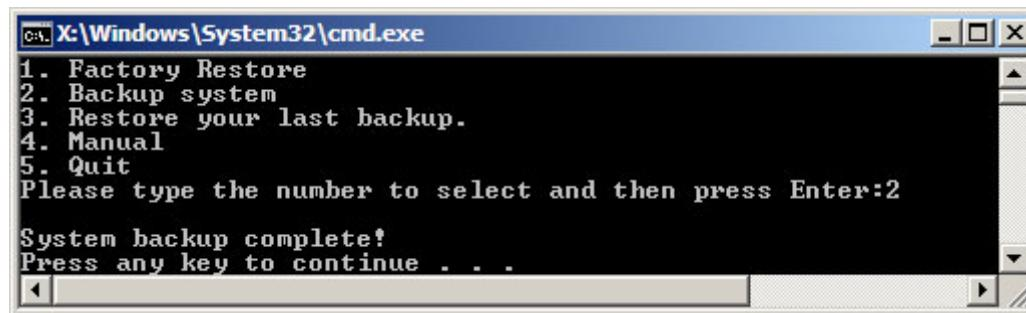

Figure B-37: System Backup Complete Window
Step 6: The screen shown in **Figure B-37** appears when system backup is complete.